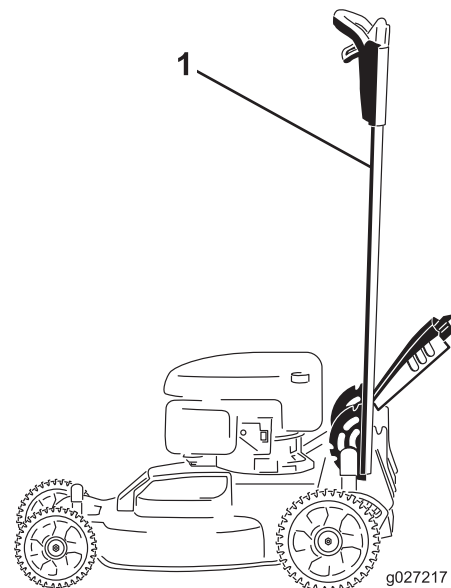

Figure 40
1. Lock the handle in the vertical position (Figure 40); refer to Adjusting the Handle Height (page 12).